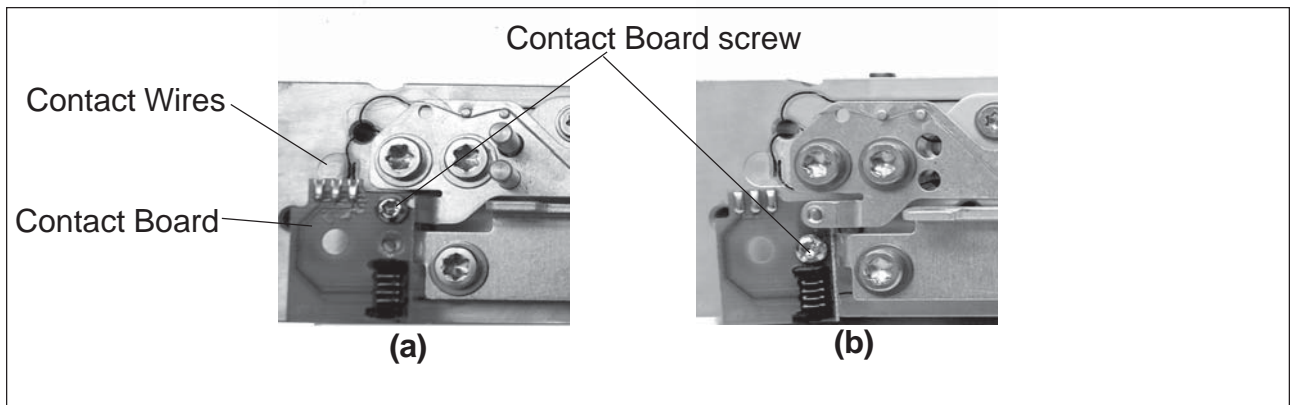

Figure 3-62. Repositioning the Contact Board and Screw.
16. Refer to Figure 3-62 and remove the contact board screw (a) and place as shown in (b).